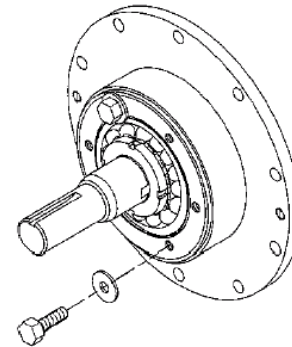

Figure 9 Clamping the Bearing
6. Hand pack the ball bearing (24) with grease. Refer to the "Lubrication" section for the recommended grease.
7. Install the bearing into the head recess. The bearing balls should face outward, with the grease shield inward. Ensure the bearing is fully and squarely seated against the lip seal housing or mechanical seal. Install two 3/8" (10 mm) washers and two bearing cover capscrews (28) to clamp the bearing and compress the lip seal housing for proper bearing locknut adjustment (see Figure 9). The washers and capscrews will be removed after the locknuts are adjusted. Leave the two capscrews and washer in place to retain the bearing during assembly.